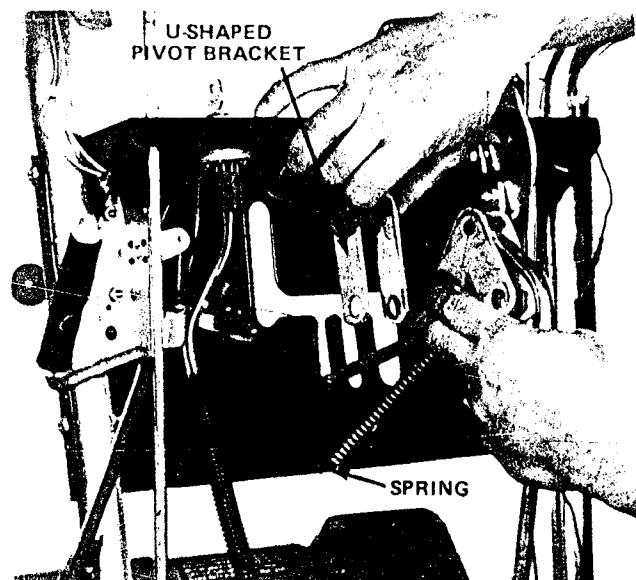

Figure 12
2. Shift into "first" gear; then remove hair pin cotter, flat washer, and clevis pin retaining wheel drive control in place (Fig. 12). Next, move wheel drive control away from U-shaped pivot bracket and rotate the pivot bracket one complete turn (Fig. 12). Then reinstall gear shift.
NOTE: Rotate U-shaped pivot bracket clockwise — in — to lower wheel drive control lever and counterclockwise — out — to raise the lever (Fig. 12).